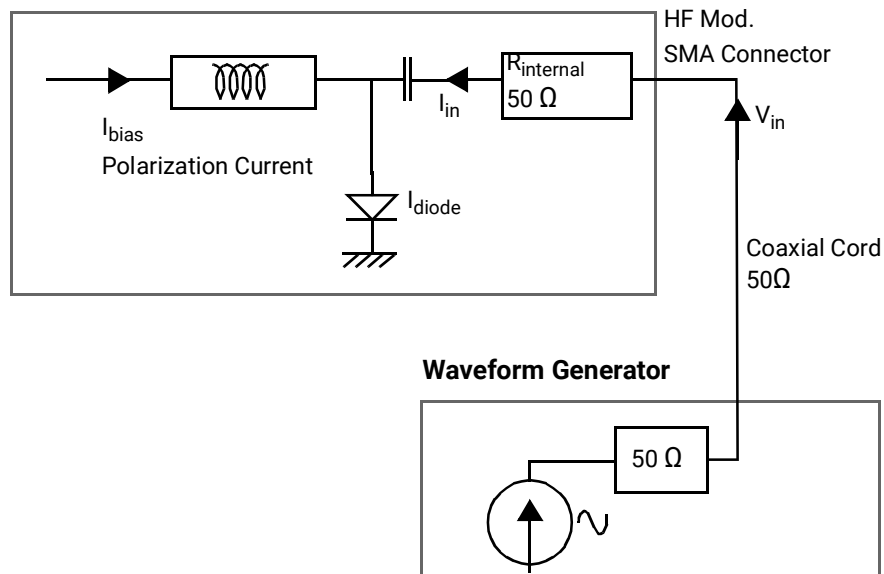

Figure 10: High frequency modulation setup
1. Connect an external high frequency modulation source to the **HF Mod.** SMA connector, as shown in the following *Figure 10*, p. 46.